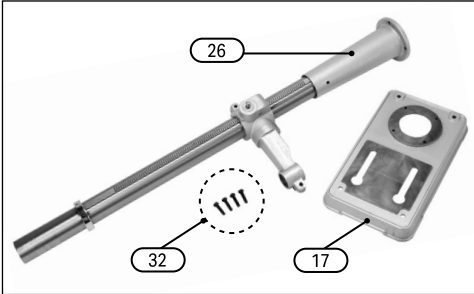
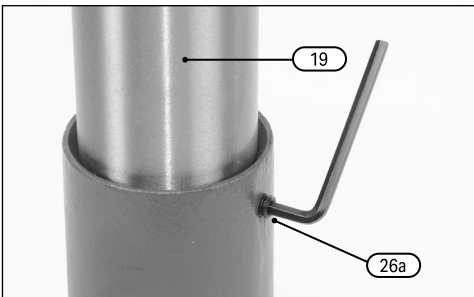

Fig. 1
Fig. 3
6.1 Assembling Base to Column (Fig.1 – Fig.3)